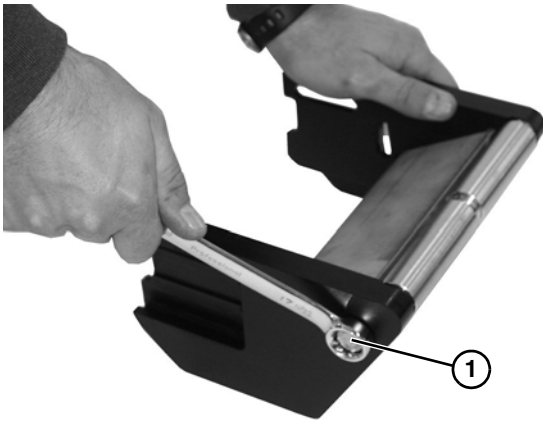

Figure 49
3. Remove head plate bolt (Figure 49, item 1) from each side.